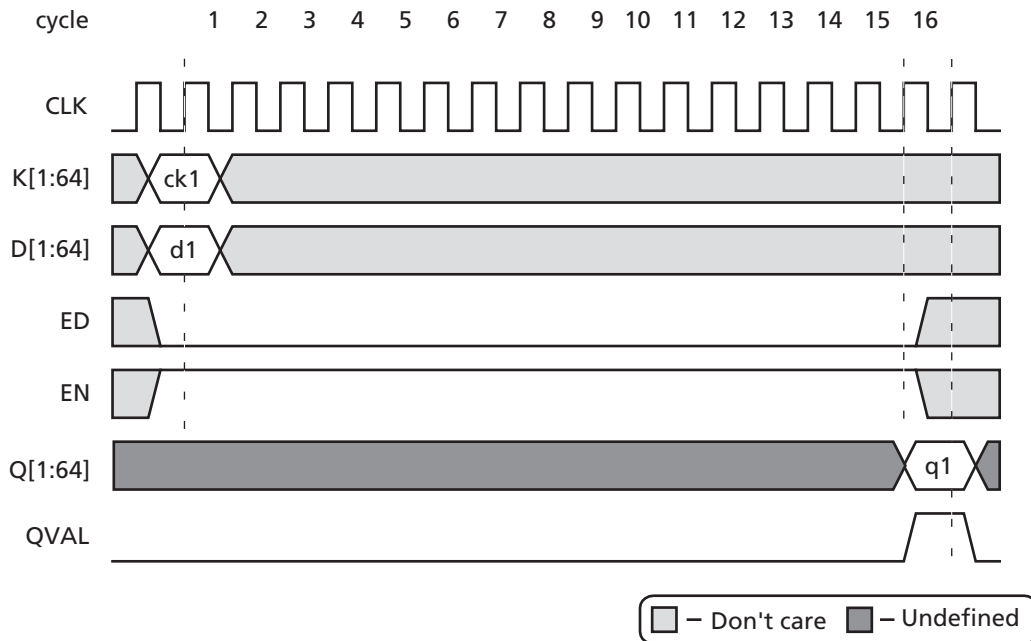

Figure 7 • Example Decryption Sequence
1. K[1:64] is set to the cipher key (ck1 in Figure 7) to decrypt the data.
2. D[1:64] is set to the ciphertext data (d1 in Figure 7) to be decrypted.
After 16 clock cycles of the EN input being held continuously at a logic '1' value, the QVAL signal will transition from logic '0' to logic '1' and remain valid for one clock cycle, indicating that valid plaintext (unencrypted data shown as q1 Figure 7) is available on the Q[1:64] outputs.